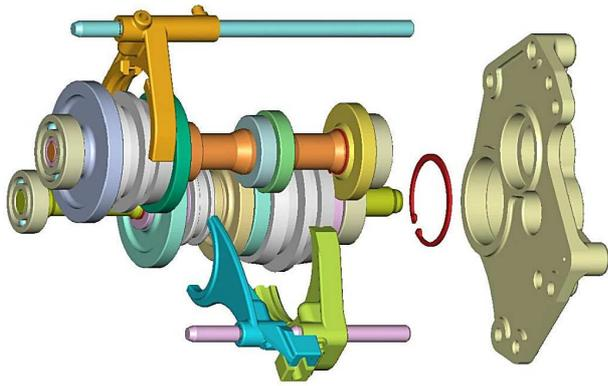

Fig.5-29.
c. Remove the shift stays from the bearing metal and remove the gears assemblies as shown Fig.5-29.